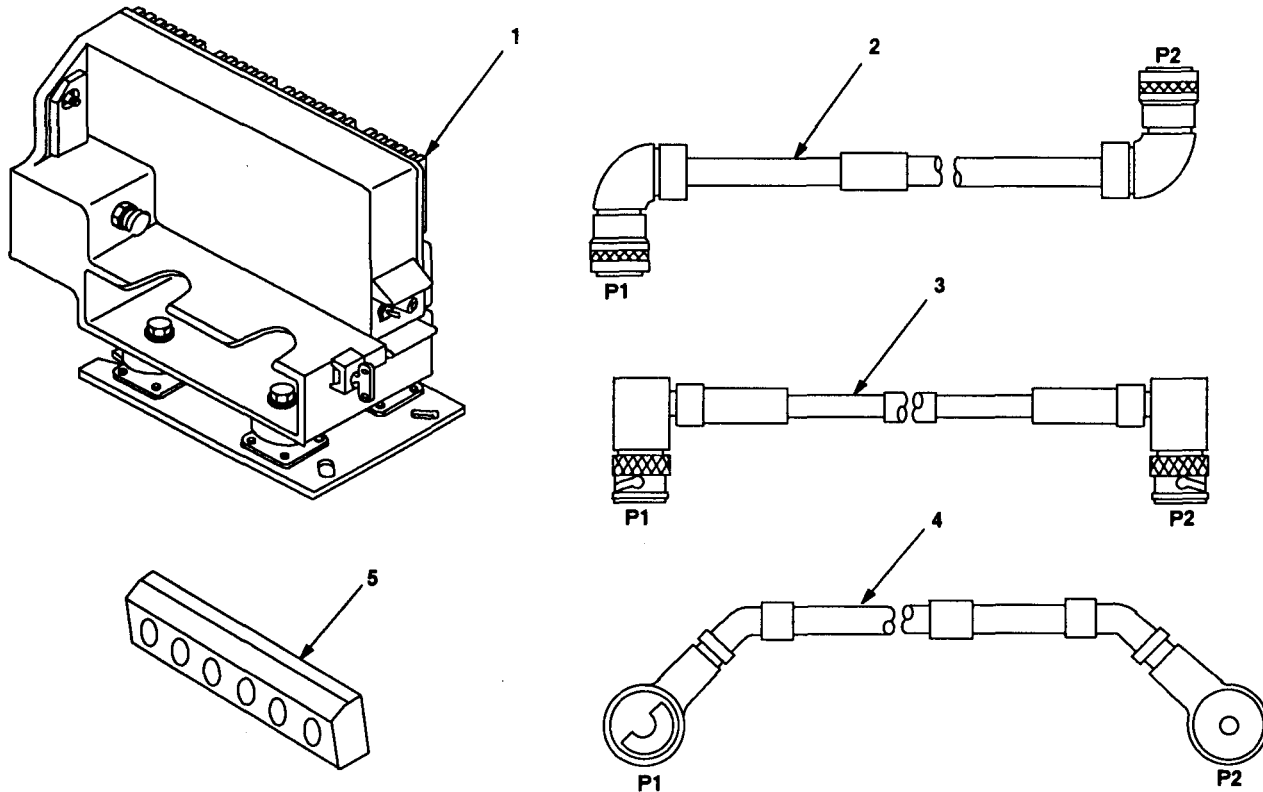
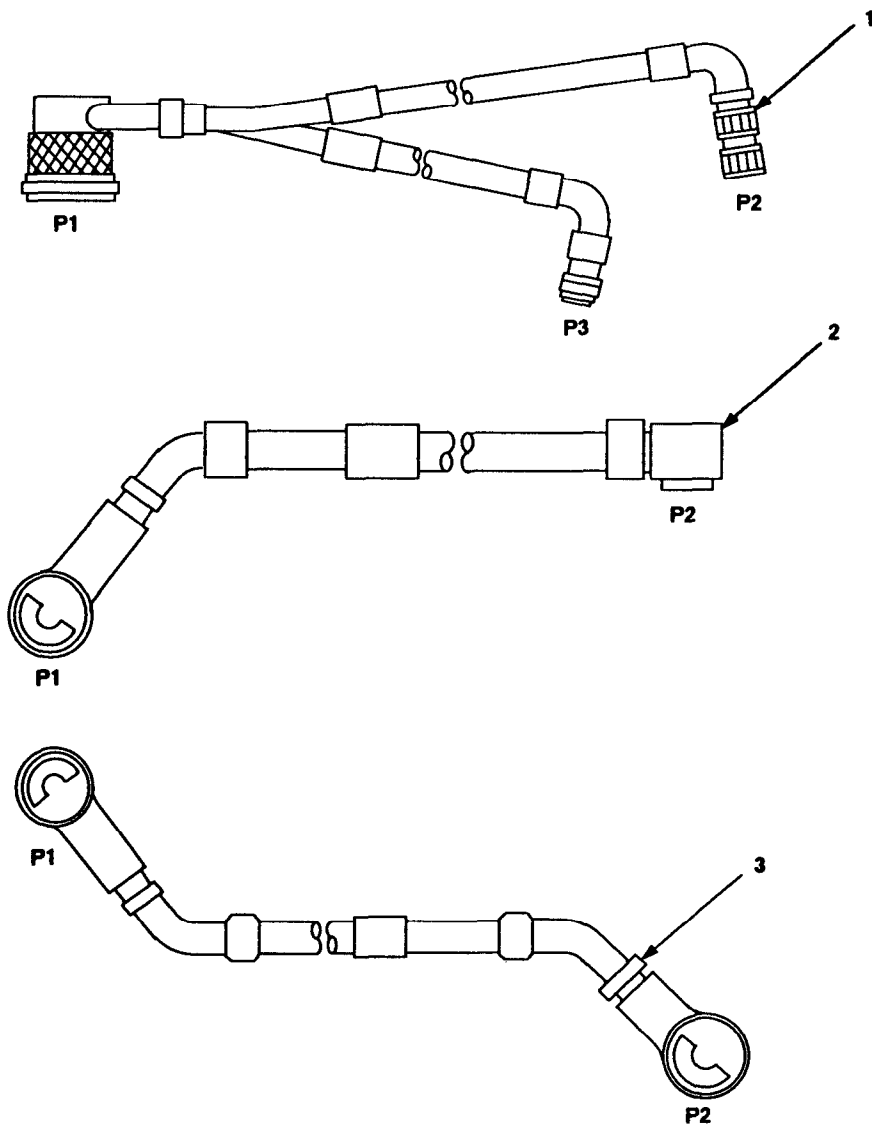

Figure 4-2. Illustrated Parts List for Table 4-2
Figure 4-3. TSEC/KY-57 Illustrated Parts List
4.3.1 Items Supplied in MK and/or Required for Installation. Use Table 4-1 and figure 4-1 to identify and inventory MK parts supplied to install Radio Set AN/VRC-89/91/92 series. Refer to Table 4-2 and figure 4-2 to identify additional items required to install Radio Set AN/VRC-92 Series. Refer to Table 4-3 and figure 4-3 to identify additional items required to install when using RT-1439/VRC.